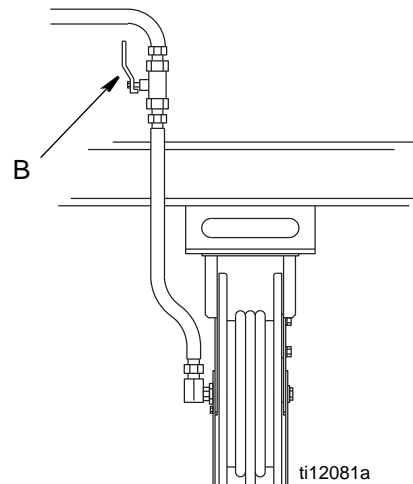

FIG. 8
4. Open all dispense position shut-off valves (B, FIG. 8) and start the pump to pressurize the system. See **Operation**, page 11, for proper operation of meter.